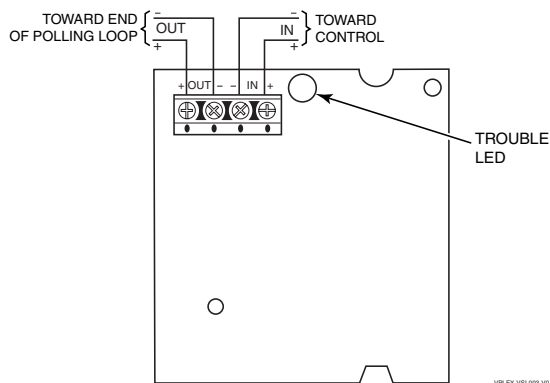

FIGURE 3: CONNECTING THE VPlex-VSI
2. Pass the two wires (coming from the direction of the control) through the opening in the case back and make connections to the module's + and - IN terminal block screws (see Figure 3).
3. Pass the two wires (extending out toward the end of the loop) through the opening in the case back and make connections to the module's + and - OUT terminal block screws (see Figure 3).